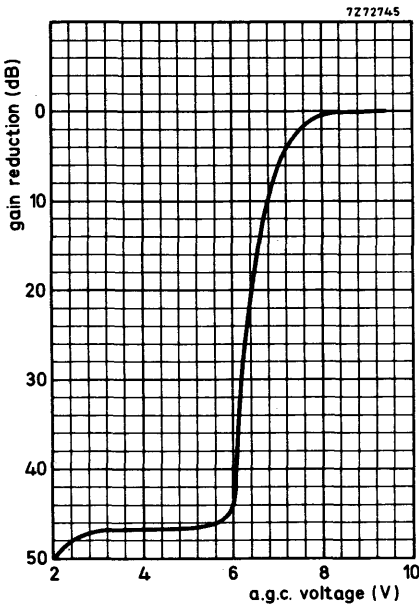

Fig. 4
A.G.C. voltage (Figs. 4, 5 and 6)